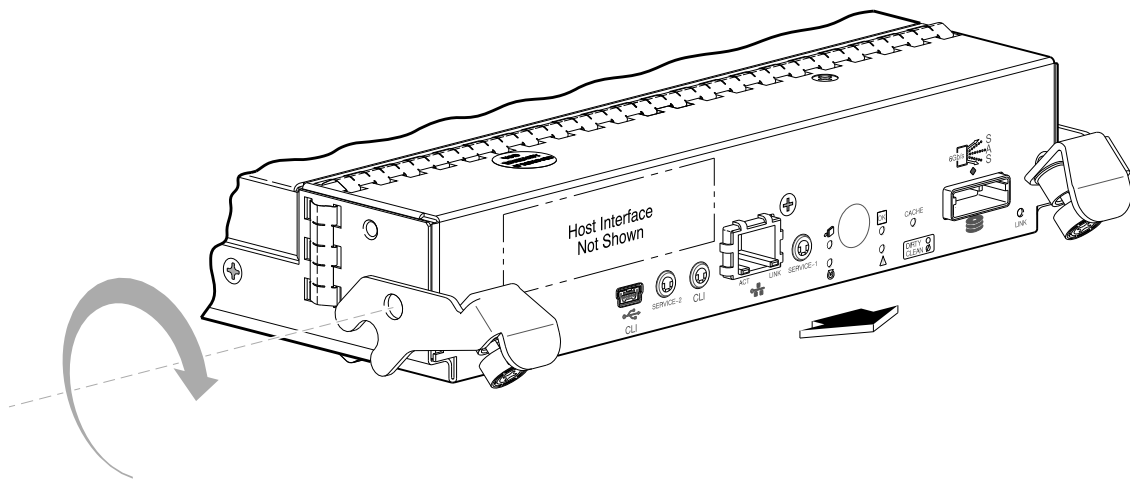

Figure 14 Extracting a controller module
5. Press both latches downward to disconnect the controller module from the midplane (see Figure 14).